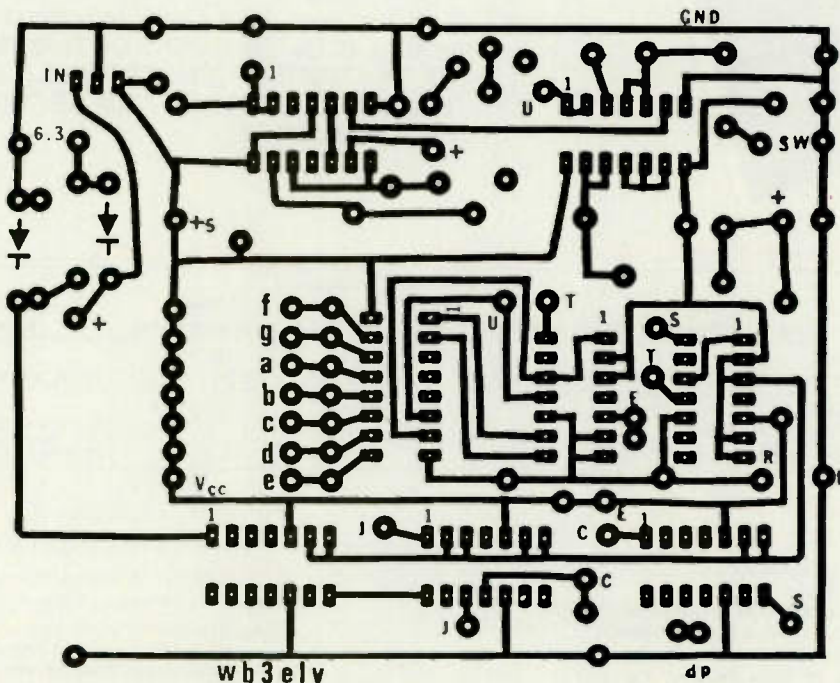

Fig. 1. PC board for 10-minute timer, including the 5-volt power supply.
I made several changes in the schematic when I designed the PC board. I used a dual 555 IC (556) instead of 2 single 555s and provided connections for a variable volume control. Fig. 1 shows my PC board